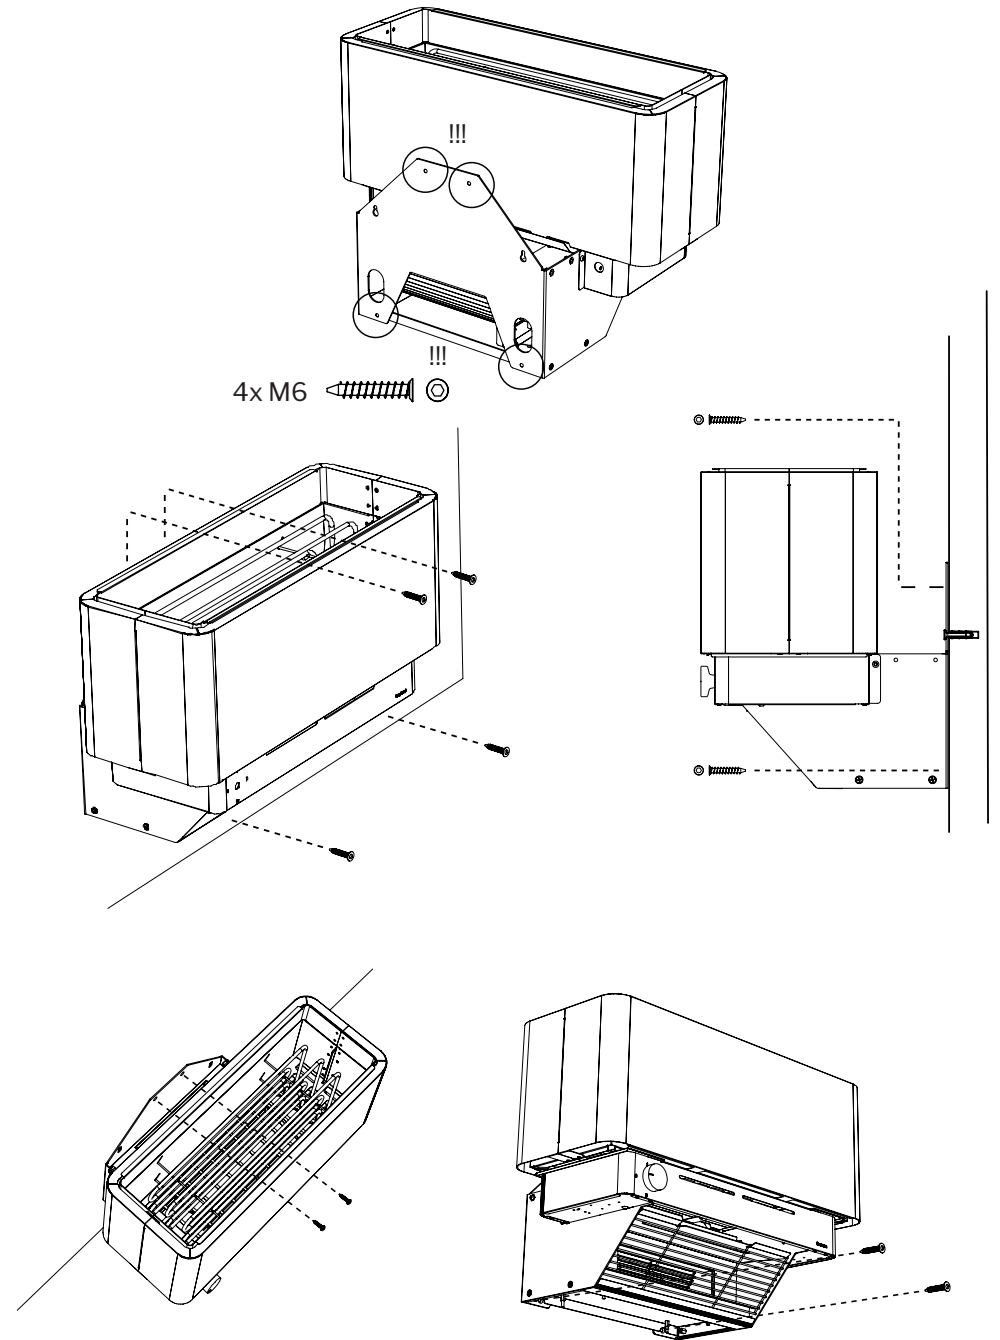

Figure 3.5: Installing the upper and lower mounting bolts and fixing the sauna climate device to the wall
- 3.2.4.** Screw the fixing bolts into the upper and lower mounting holes and secure the unit to the wall, then tighten the lower mounting bolts to the end (**Figure 3.5**).